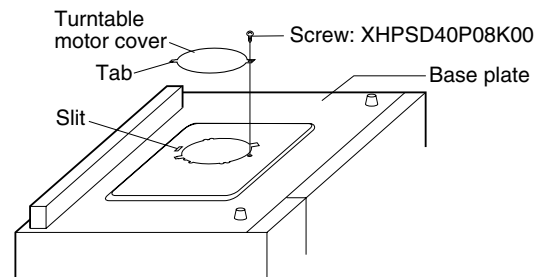

Figure C-1(b). Turntable motor cover re-install
5. Re-install the turntable motor cover to the base plate with the screw (XHPSD40P08K00) as shown in Figure C-1(b).